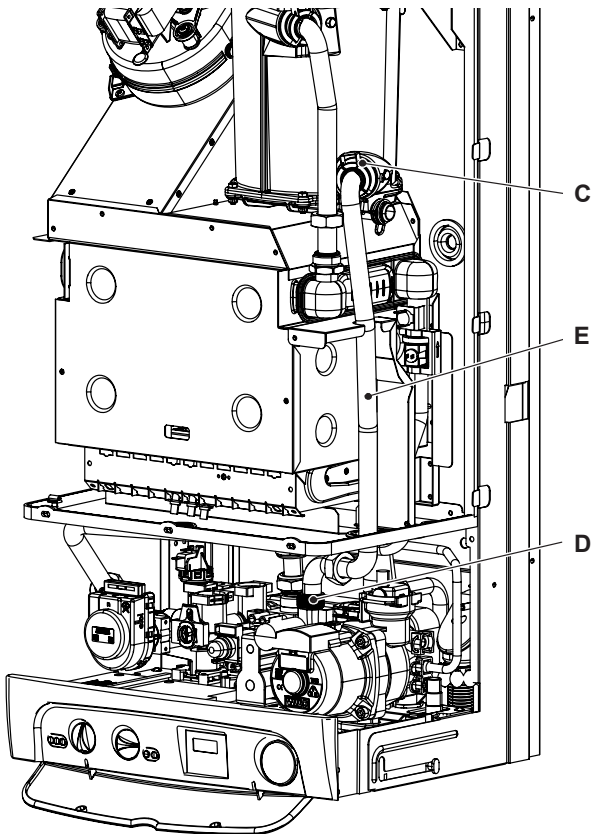

Figure 8.3
- 5 Loosen the connection D (Figure 8.3), and pull up and turn to the left the pipe E.